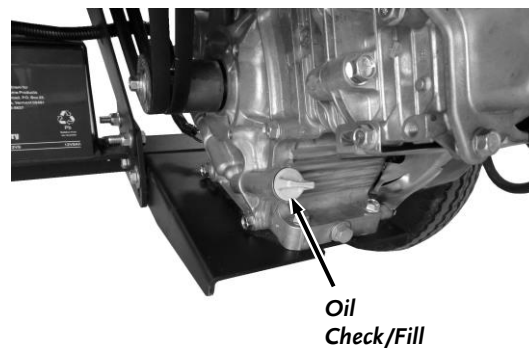

Figure 8
1. Position the machine so the Engine is level. Remove the Oil Fill/Dipstick (**Figure 8**) and clean the end of it with a rag.